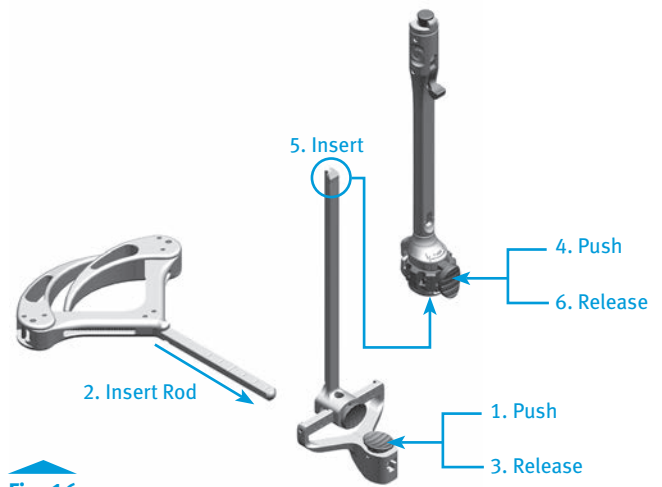

Fig. 16
- Depress and hold the button on the EM Distal Rod and insert the threaded rod on the EM Ankle Clamp into the distal rod and release the button. Depress and hold the button on the distal end of the EM Proximal Tube and insert the EM Distal Rod into the EM Proximal Tube and release the button (**Fig. 16**).